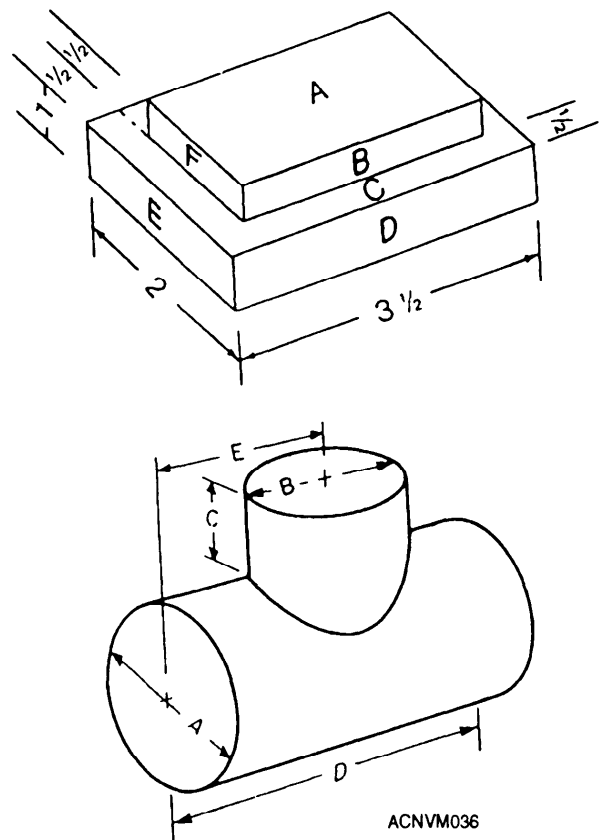

Figure 12-36.—Overall view of some objects fabricated by the parallel line method.
2. Visualize the pattern from an angle in which the top, front, and side views are all present, as shown in figure 12-36.